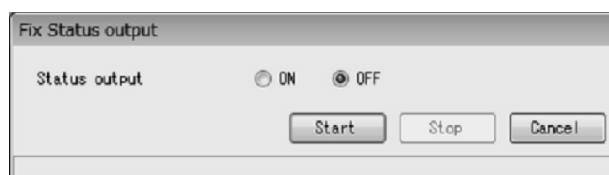

Fig.135
- ① Click the "Diag/Service (T)" menu, and then select and click "Fix Status output" from the "Loop Test" drop-down list.
- ② The following window will be displayed (Fig. 135). Select either "ON" or "OFF" for the simulated output state, and then click the "Start" button.
Click the "Cancel" button to return to the window shown in Fig. 135.
- ⑥ Clicking the "OK" button would return the interface to the window shown in Fig. 135, so click the "Cancel" button to exit "Fix Status output".